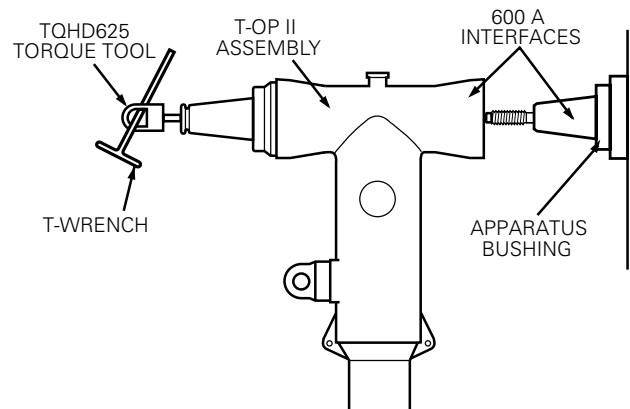

Figure 11. Installing the T-OP II assembly onto the apparatus bushing
- Insert the 5/16" torque tool into the 200 A tap and engage the rotating nut. (Refer to Figure 11.)